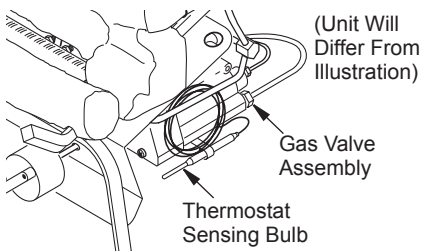

Figure 45 - Location of Gas Valve Assembly and Thermostat Sensing Bulb
1. Locate the gas valve assembly and thermostat sensing bulb (see Figure 45).